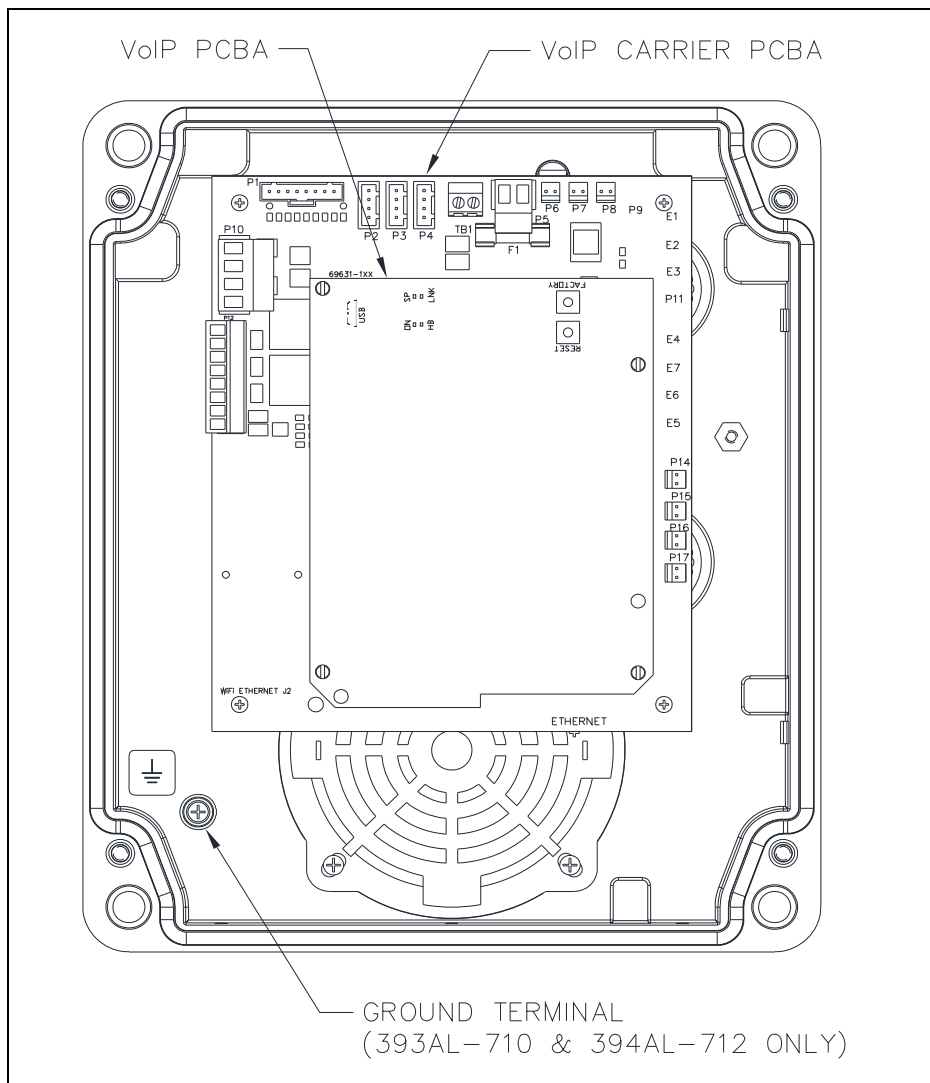
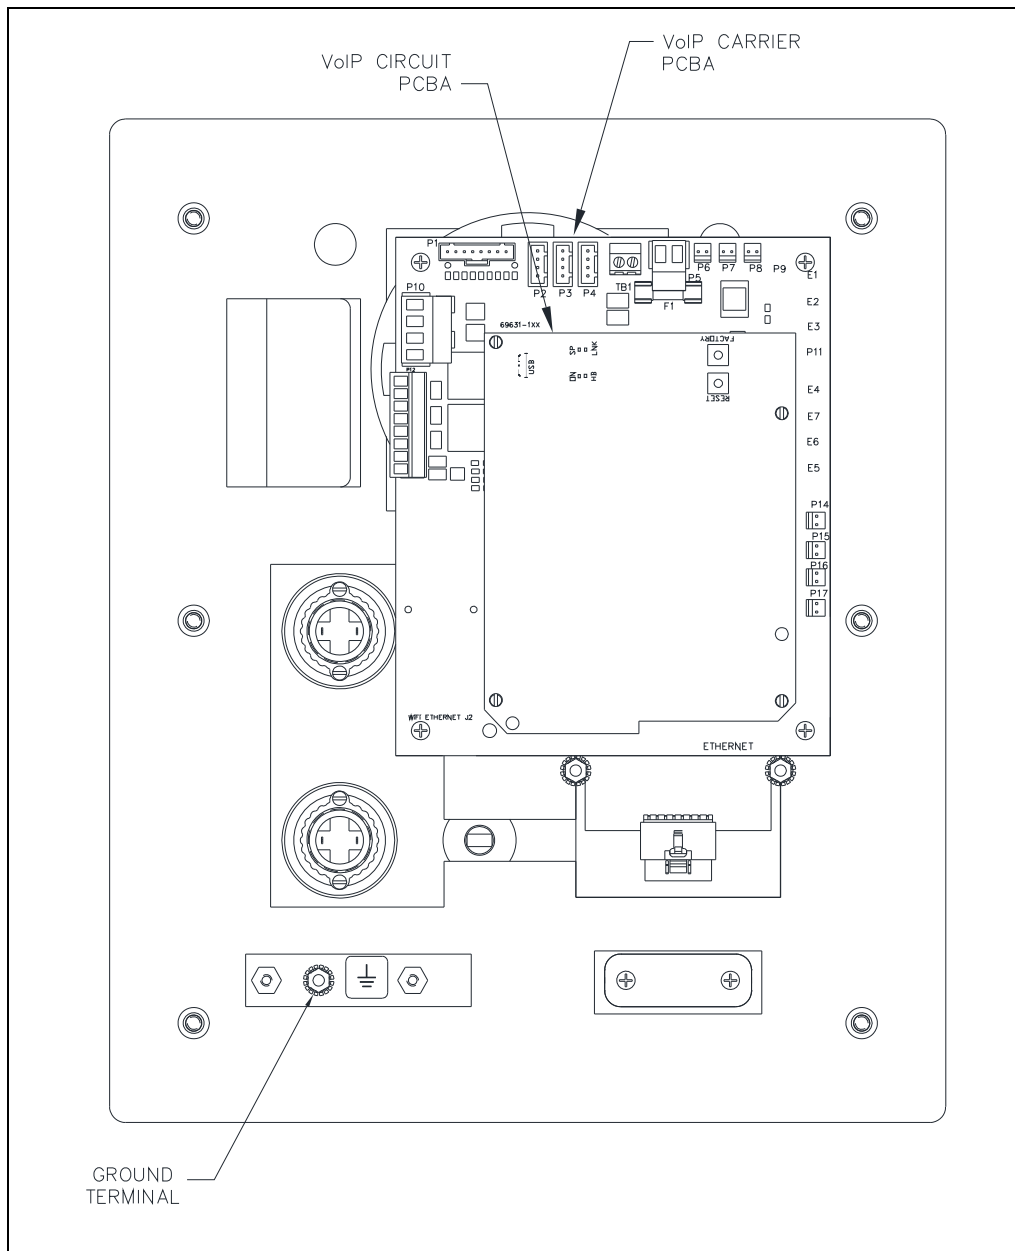

Figure 8. Component Locations for Models 393-710, 393AL-710, and 394AL-712
Figure 13. Component Locations for Models 397-71x and 398-71x
2. Secure it with the ground terminal located on the rear of the front panel (see Figure 8 and Figure 13).